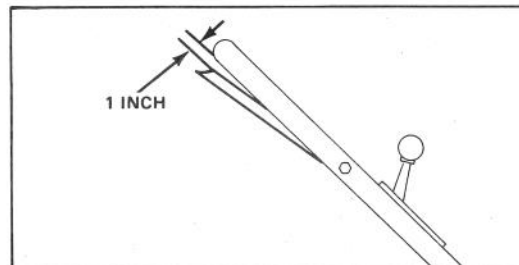

Figure 17
3. **CHECK ADJUSTMENT** — Slowly pull mower backward while control bar is gradually moved toward handle. Adjustment is correct when rear wheels stop turning and control bar is about 1-inch from handle (Fig. 17).